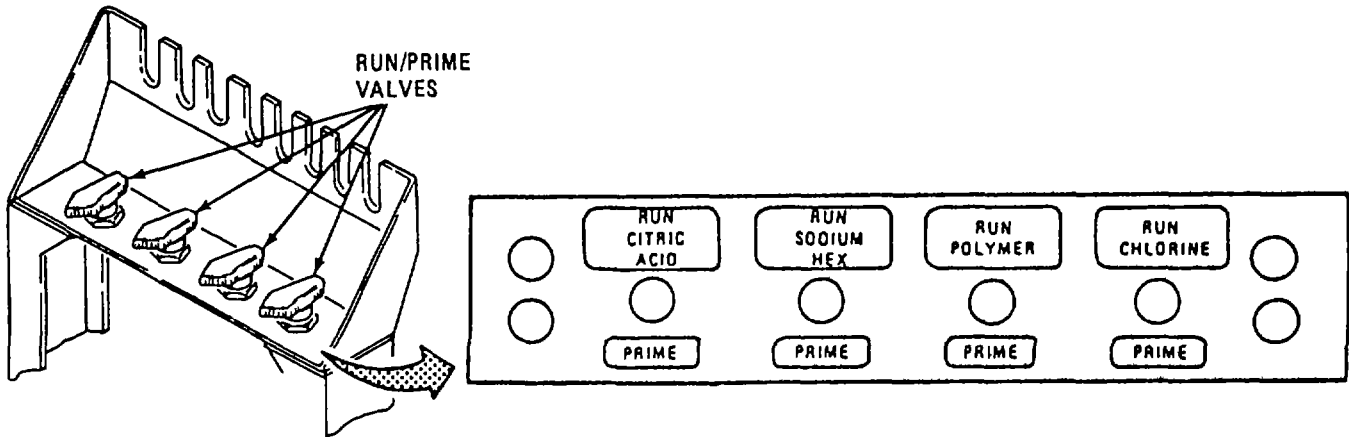

Figure 2-60. RUN/PRIME Valves.
- (1) Set SODIUM HEX RUN/PRIME valve to RUN position (figure 2-60).
- (8) Set CHLORINE RUN/PRIME valve to RUN position (figure 2-60).
- (9) The ROWPU is now in full operation. Check the TDS of the product water (para. 2-15c), and calculate the percent rejection. Check Table 2-3.2 to ensure proper TDS rejection is occurring, and record the findings in operator's log. If reading is above proper TDS percent rejection level or product water is above 1000 ppm, refer to Section II, Chapter 3, Troubleshooting. Keep watching your gauges and lamps. Complete the operator's record (log) hourly. Refer to Table 2-3 for normal and trouble point indications.
- (10) Check chlorine residual. It should be 2 ppm unless otherwise specified by medical personnel.
- (11) Check pH. It should be between 5 and 9 units.